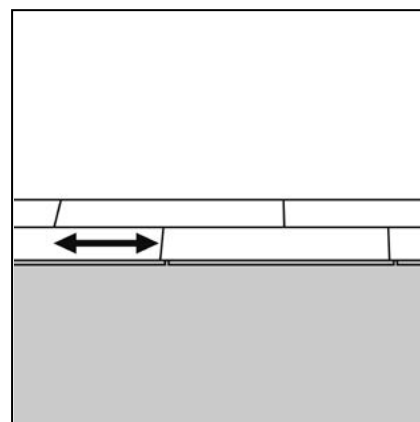

Figure 51 First plank, first row
- ▶ Insert the upper male profile of the long side of the plank into the corresponding lower profile of the long edge of the plank in the previous row, at a slight angle. Press down until it locks into place. Always try to stagger the short joints approx. 150mm from the nearest short joint in the previous row; (Fig 51). Do not forget to include the required expansion gap to the wall.